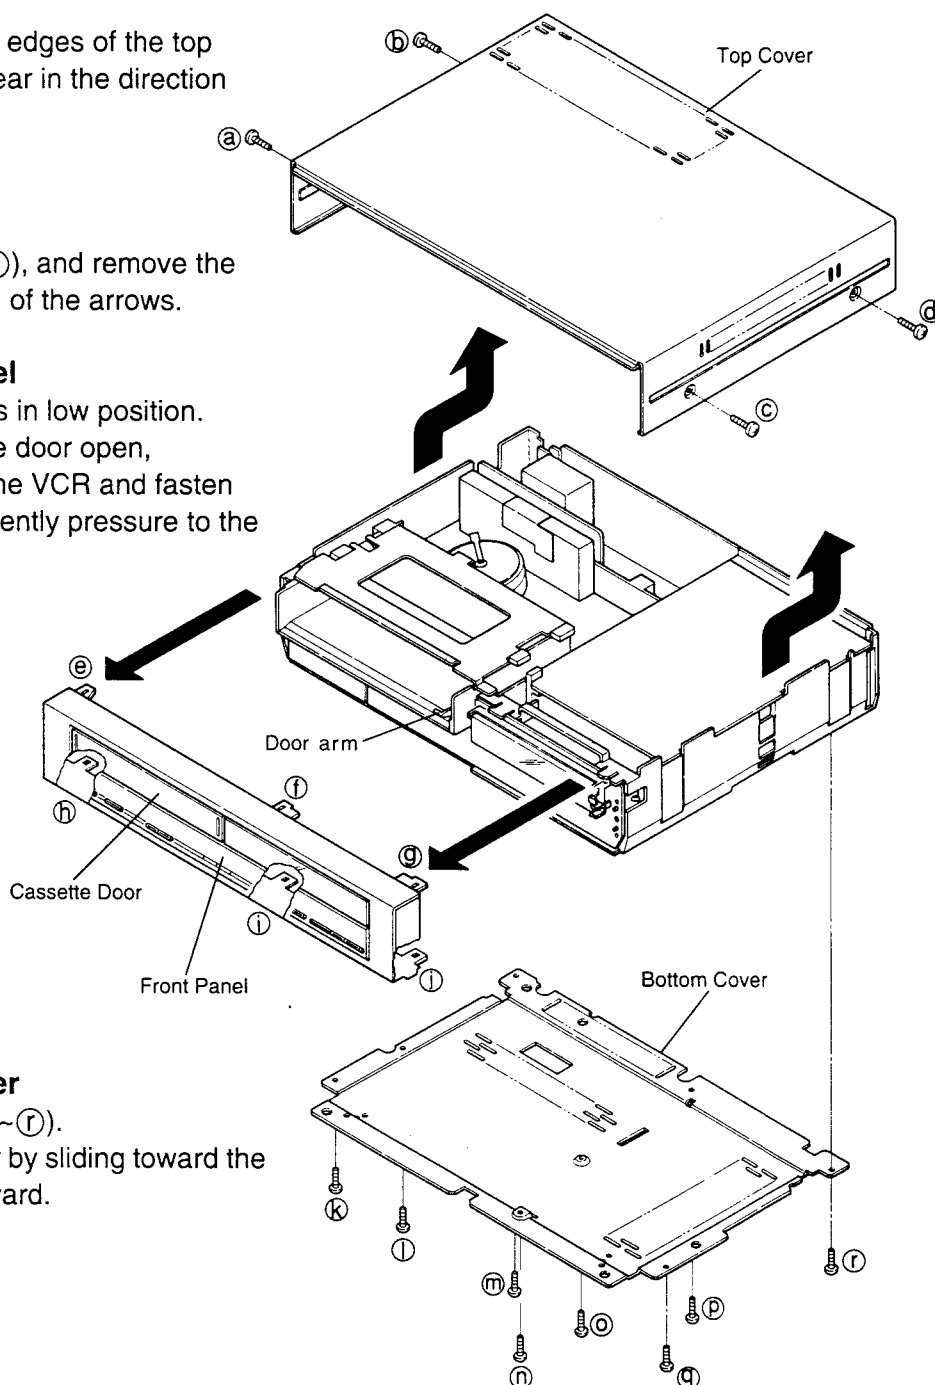

Fig.1
- Remove four screws (a~d), as shown in Fig.1.